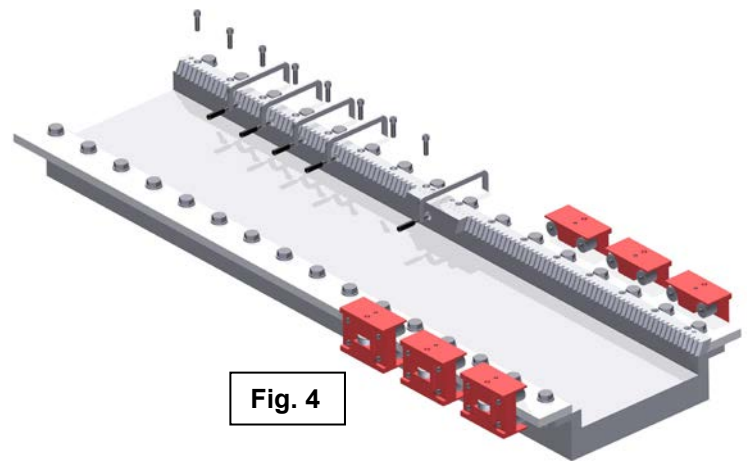

Fig. 4
- Attach the assembly jig and clamp it lightly. (Fig. 4)